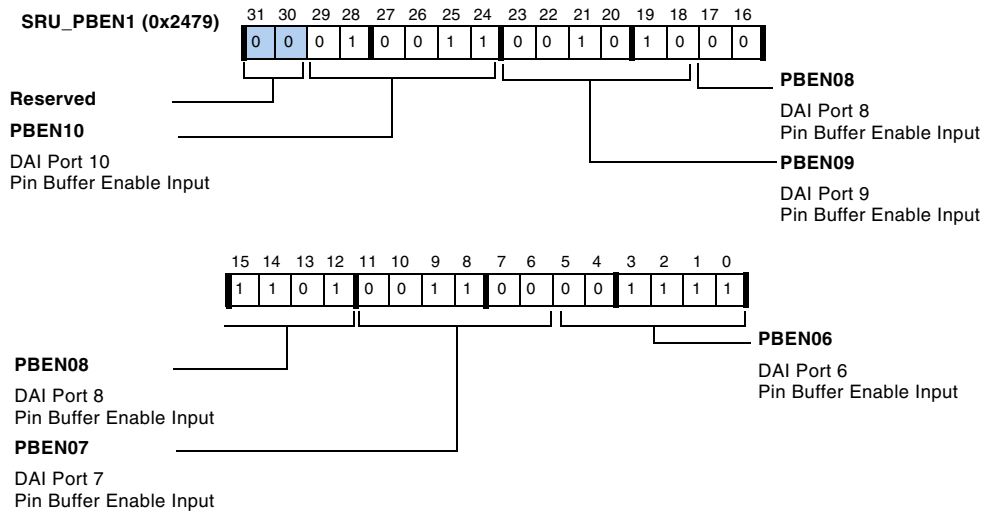

Figure A-53. SRU\_PBEN1
- SRU\_PBEN1, described in Figure A-53